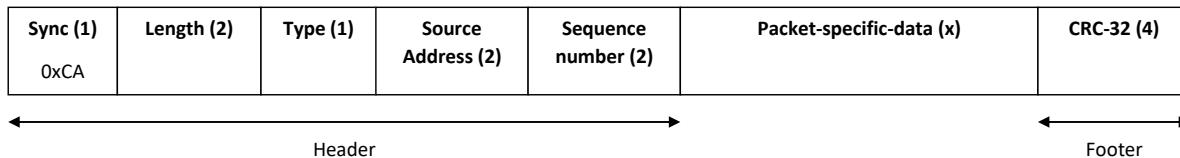

Figure 14: Page datagram generic format
- <header>: The generic header shown in Figure 14 with the type field set to 0
- Message length (2): The length of the “Message (x)” field (the only variable length portion of this packet)
- Baud rate (2): The baud rate as an integer (ie, 512, 1200, 2400).
- Page class (1): Determines the encoding of the message, one of:
- Cap code (4): Also known as pager ID, pager address, pager number, etc. The destination cap code for this message. For POCASG the valid cap codes are 1 to  $(2^{21})-1$
- Function override (1): When set to 0, does not override the “function” bits in the address codeword and instead uses the page class to determine the function bits. When set to 1 through 4 will encode the page as per the page class format, however it will override the function bits to this value.
- <footer>: The generic footer shown in Figure 14
- <header>: The generic header shown in Figure 14 with the type field set to 1.
- Response code (4): A 32-bit response code:
- <footer>: The generic footer shown in Figure 14.
- <header>: The generic header shown in Figure 14 with the type field set to 2.